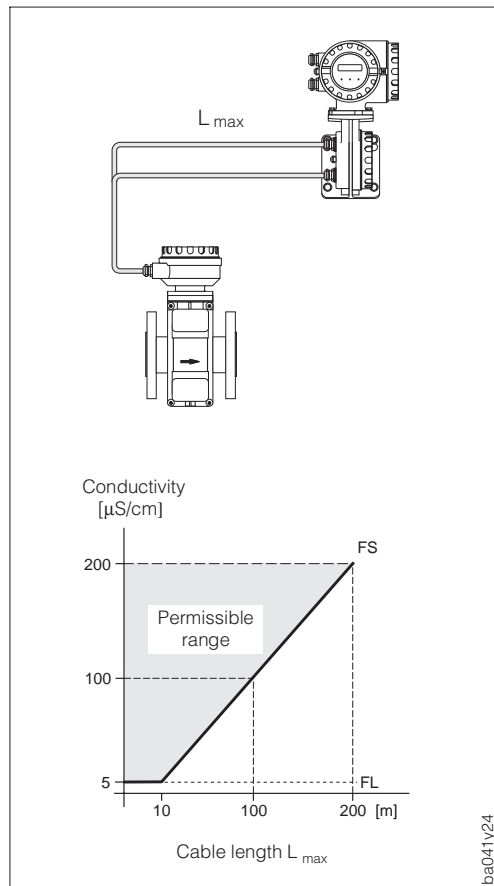

Fig. 17
- The permissible length of cable L_{\max} of more than 10 m is governed by the conductivity of the fluid (see Fig. 17).
- All fluids with a minimum conductivity of $\geq 5 \mu\text{S}/\text{cm}$ (demineralised water $\geq 20 \mu\text{S}/\text{cm}$) can be measured. This is not dependent on the distance between transmitter and sensor (see Fig. 17).